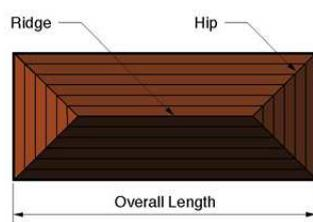

Fig 5.2.1
- HIP ROOFS:** Treat the roof initially as a straight gable. Find the overall length (Fig 5.2.1) and refer to Table 5.1 to calculate the number of tiles required for the coverage. Multiply the result by the number of courses of tiles needed to cover the rafter length. Multiply again by two when calculating both sides of the roof. Find the total hip length and using the formulae shown in (iii), calculate the tiles required for the hips. Add this to the tiles required for the body of the roof.